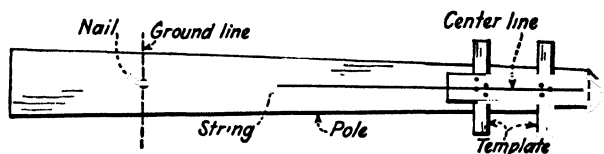

FIG. 10-10. Template for use in marking gains.
**Gaining Template.** In case several gains are to be cut, a gaining template is of great convenience. The use of such a template is illustrated in Fig. 10-10. In using the template the point of the roof of the template is placed over the roof of the pole and the template is shifted in position until its center line lies in line with a string stretched from the